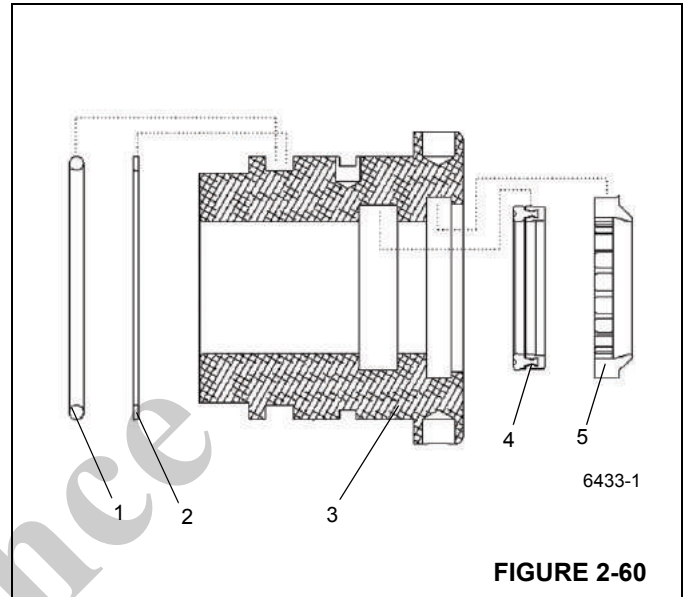

FIGURE 2-60
1. Install head seals (see Figure 2-60) as follows: